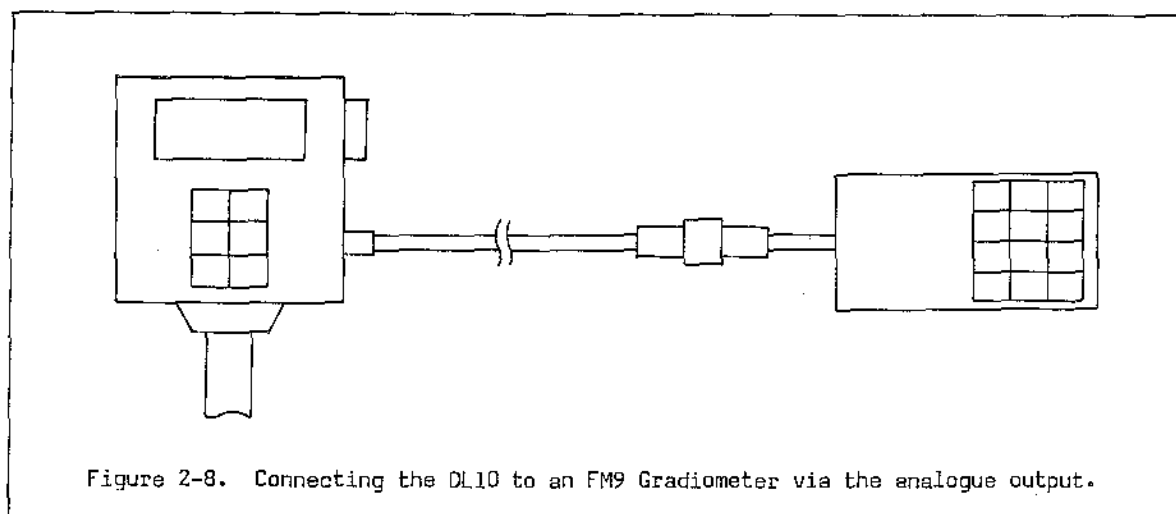

Figure 2-8. Connecting the DL10 to an FM9 Gradiometer via the analogue output.
The FM9 does not have a hand-held external LOG key. Readings can however be logged using the DL10 Data-Logger. In this case you will require a lead, part number 029-006, which is 3m long, to connect between the analogue output of the FM9 ( labelled as (2) in figure 2-2 ) and the analogue input of the DL10 which is the short flying lead - see figure 2-8.